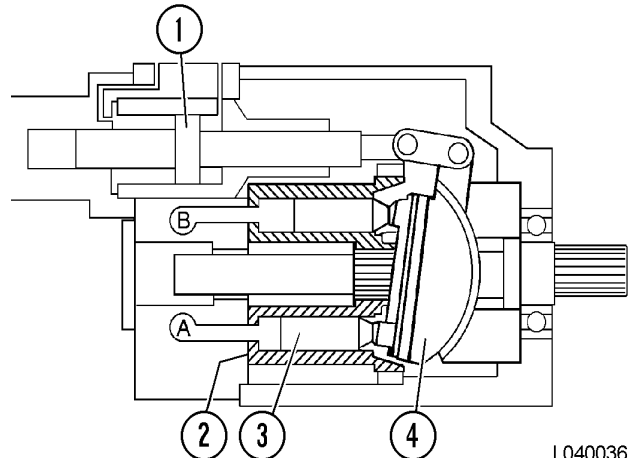

FIGURE 4-13. PUMP AT HALF VOLUME
Figure 4-13 shows that the position of control piston (1) is near the center of its travel. Swashblock (4) is not angled as steep as before. Therefore, the pistons have a shorter stroke. As the piston stroke gets shorter, the pump output also decreases.